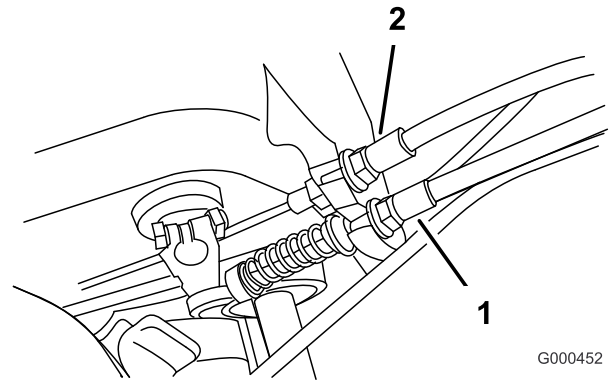

Figure 31
2. To increase cable tension, loosen front cable jam nut and tighten back cable jam nut (Figure 31) until a force of 11–14 lb. is required to engage brake. Force to be measured at lever knob. Do not over adjust, or brake band may drag.